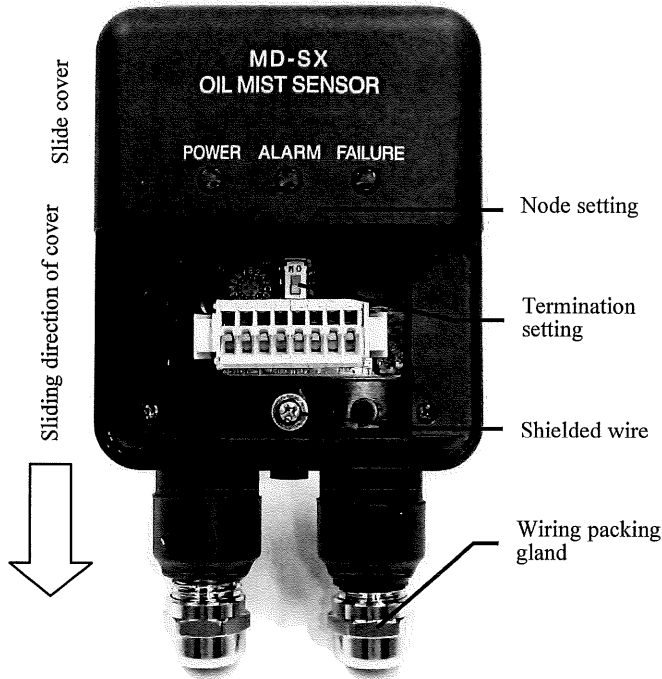

Fig. 26 Cable connection diagram (gland type)
- (1) Loose screw fastening the slide cover and slide the slide cover to reveal the terminal block.
- (2) Wiring connection refer to Figure 26 [SENSOR TERMINAL BLOCK LAYOUT].
- (3) Set the termination and node settings to the sensors necessarily after wiring work was over.